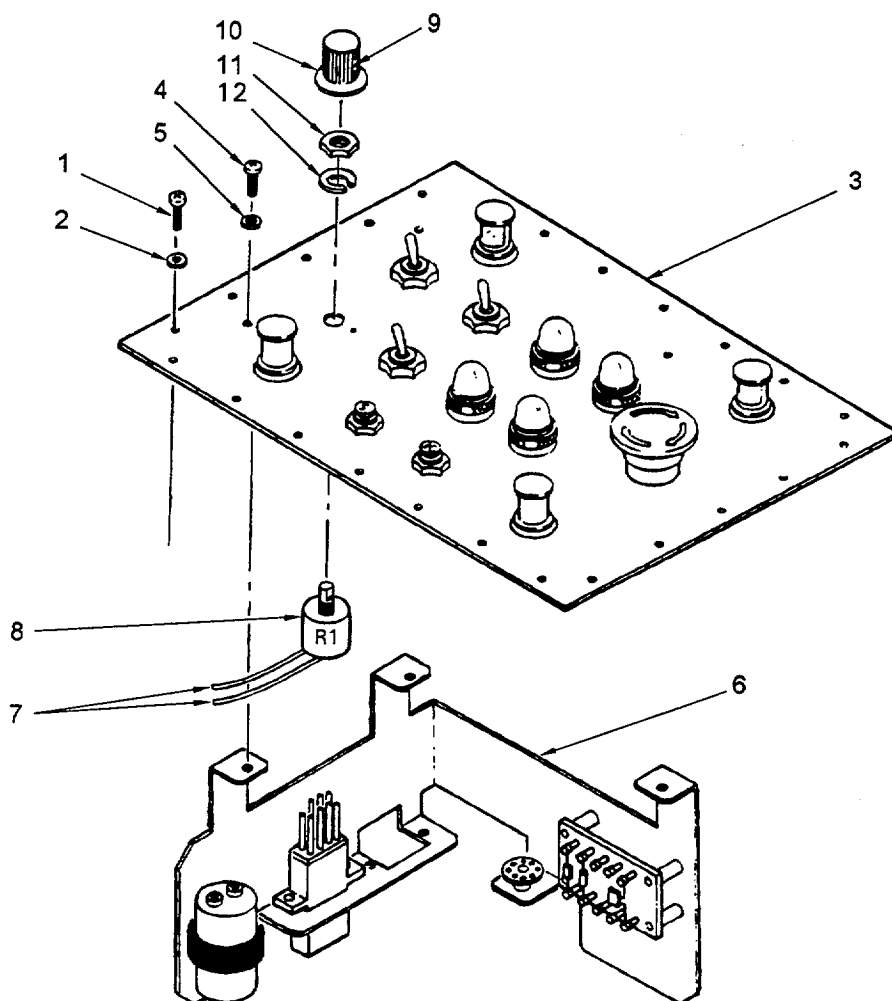

Figure 5-11. Panel Lights Dimmer Potentiometer R1 Replacement
5.7.2 Replace Panel Lights Dimmer Potentiometer R1. (Refer to figure 5-11.)